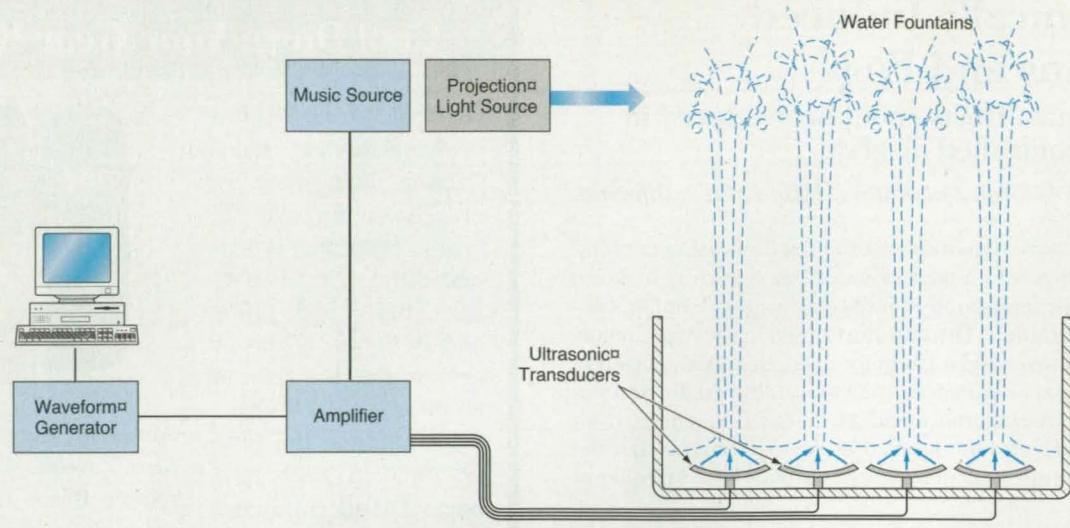

Figure 2. A ULIFOG System would exploit effects like those of Figure 1 in synchronism with lighting and sound effects.
tem (see Figure 2) would include (1) electronic circuits to excite the ultrasonic transducers with waveforms chosen to produce the desired fountain and fog effects, (2) one or more source(s) of light (e.g., lasers or colored lamps), (3) a source of music, and (4) a computer that would control the aforementioned subsystems and would coordinate the vis-